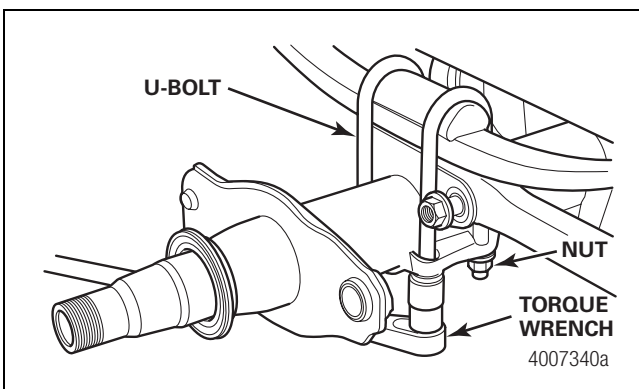

Figure 35
5. Install the U-bolts into the holes on the axle. Install and tighten the nuts in an alternating pattern to the correct torque. Refer to the following suspension torque table or measure the fastener size to determine the correct torque. Figure 35.